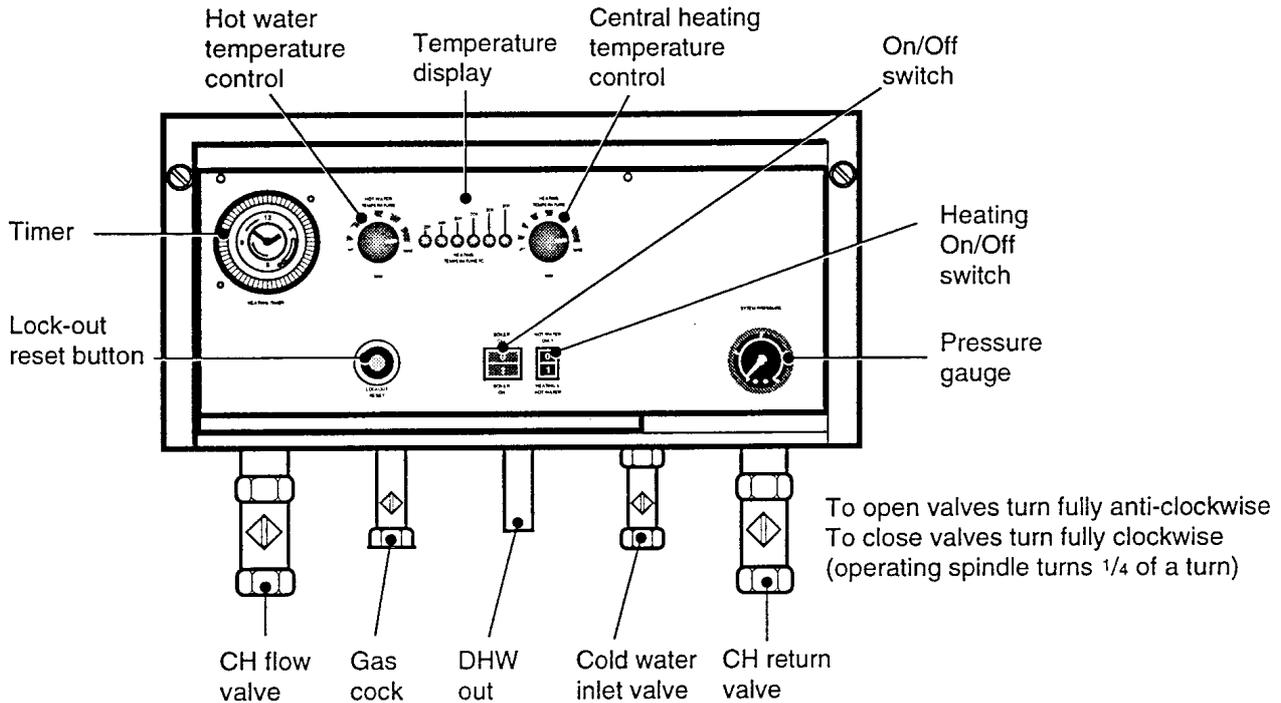

Fig. 14
- 3 Open the central heating flow and return valves. See Fig. 14. Using a suitable screwdriver, turn the operating spindles fully anticlockwise ($\frac{1}{4}$ of a turn). The valves are open when the slot in the operating spindle is vertical. It is important that these valves are open before pressurising the system, the system could be over-pressurised as the safety valve is within the boiler and would not protect the system if the valves were closed. Gradually open the fill point valve in the heating system until water is heard to flow.
- 9 Open the mains cold water inlet valve (see Fig. 14), using a suitable screwdriver, turn the operating spindles fully anticlockwise ($\frac{1}{4}$ of a turn). The valve is open when the slot in the operating spindle is vertical.
Refer to Fig. 14
- 1 With the boiler service cock (see Fig. 14) closed (slot in operating spindle horizontal), pressure test the gas supply and inlet pipework connection to the boiler service cock for soundness in accordance with BS 6891.
Warning: Before servicing the boiler press in the on/off switch (see Fig. 14) to switch off the boiler (green light off), isolate the electricity supply and close the boiler gas service cock (see Fig. 2). Allow the boiler to cool.